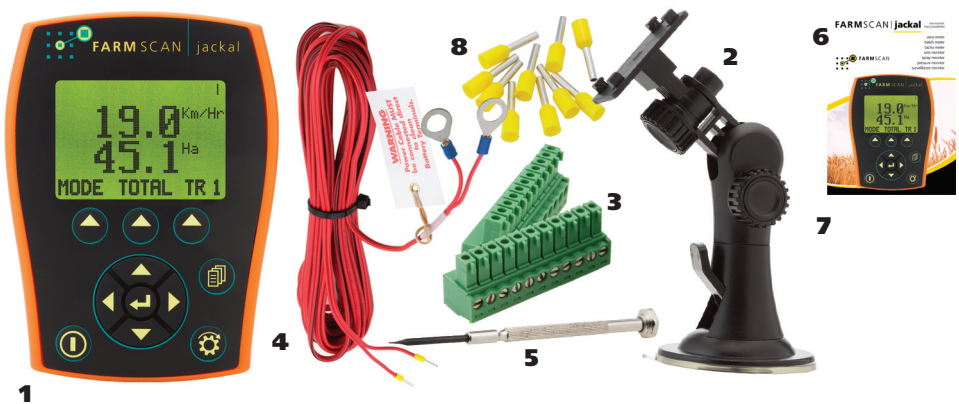
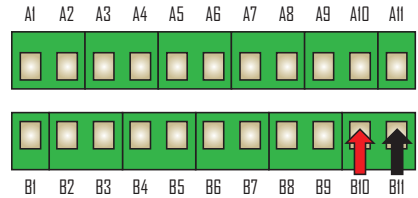

Figure 1: Parts pictorial with parts numbered as per Section 2.1.
Figure 2: Power Connection at the rear of the Jackal. Red is +12V, Black is Ground (Earth or Common)
The Jackal is provided with a suction window mount. (Figure 1)
- Connect power cable supplied (Figure 1) **DIRECTLY TO BATTERY**, as described in Figures 2 and 3.
- Ring terminals are used for battery connection and the end with Ferrules attached (See Figure 1) is used to connect to the Jackal.
- Connect Ground to **BATT -VE**, Terminal B11 using the black wire, as shown in Figure 2.
- Connect +12 Volts (+battery terminal) to **BATT +VE**, Terminal B10 using the red wire as shown in Figure 2.